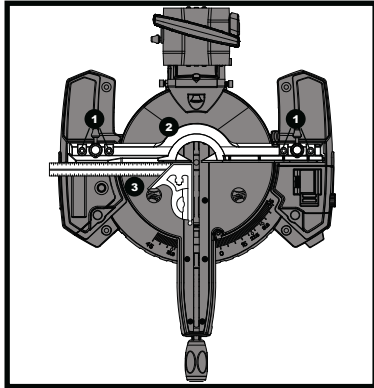

Fig 26
- 1) Loosen the four fence locking bolts (1).
- 3) Using a square (3), lay the heel of the square against the blade and the ruler against the fence(2) as shown.
- 4) Adjust the fence 90° to the blade and tighten the four fence locking bolts. (See fig. 26)